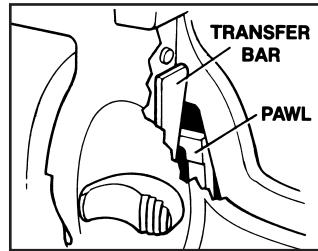

Figure 9
2. Hook front of trigger guard into recess in frame (See Figure 7). Align pawl in its recess in the frame and be sure transfer bar is in correct position in rear of firing pin. Swing trigger guard upward into position in frame then allow latch to re-engage. If solid resistance is felt when swinging trigger guard into frame, or if trigger guard will not lock into position re-check position of pawl and transfer bar (See Figure 9).